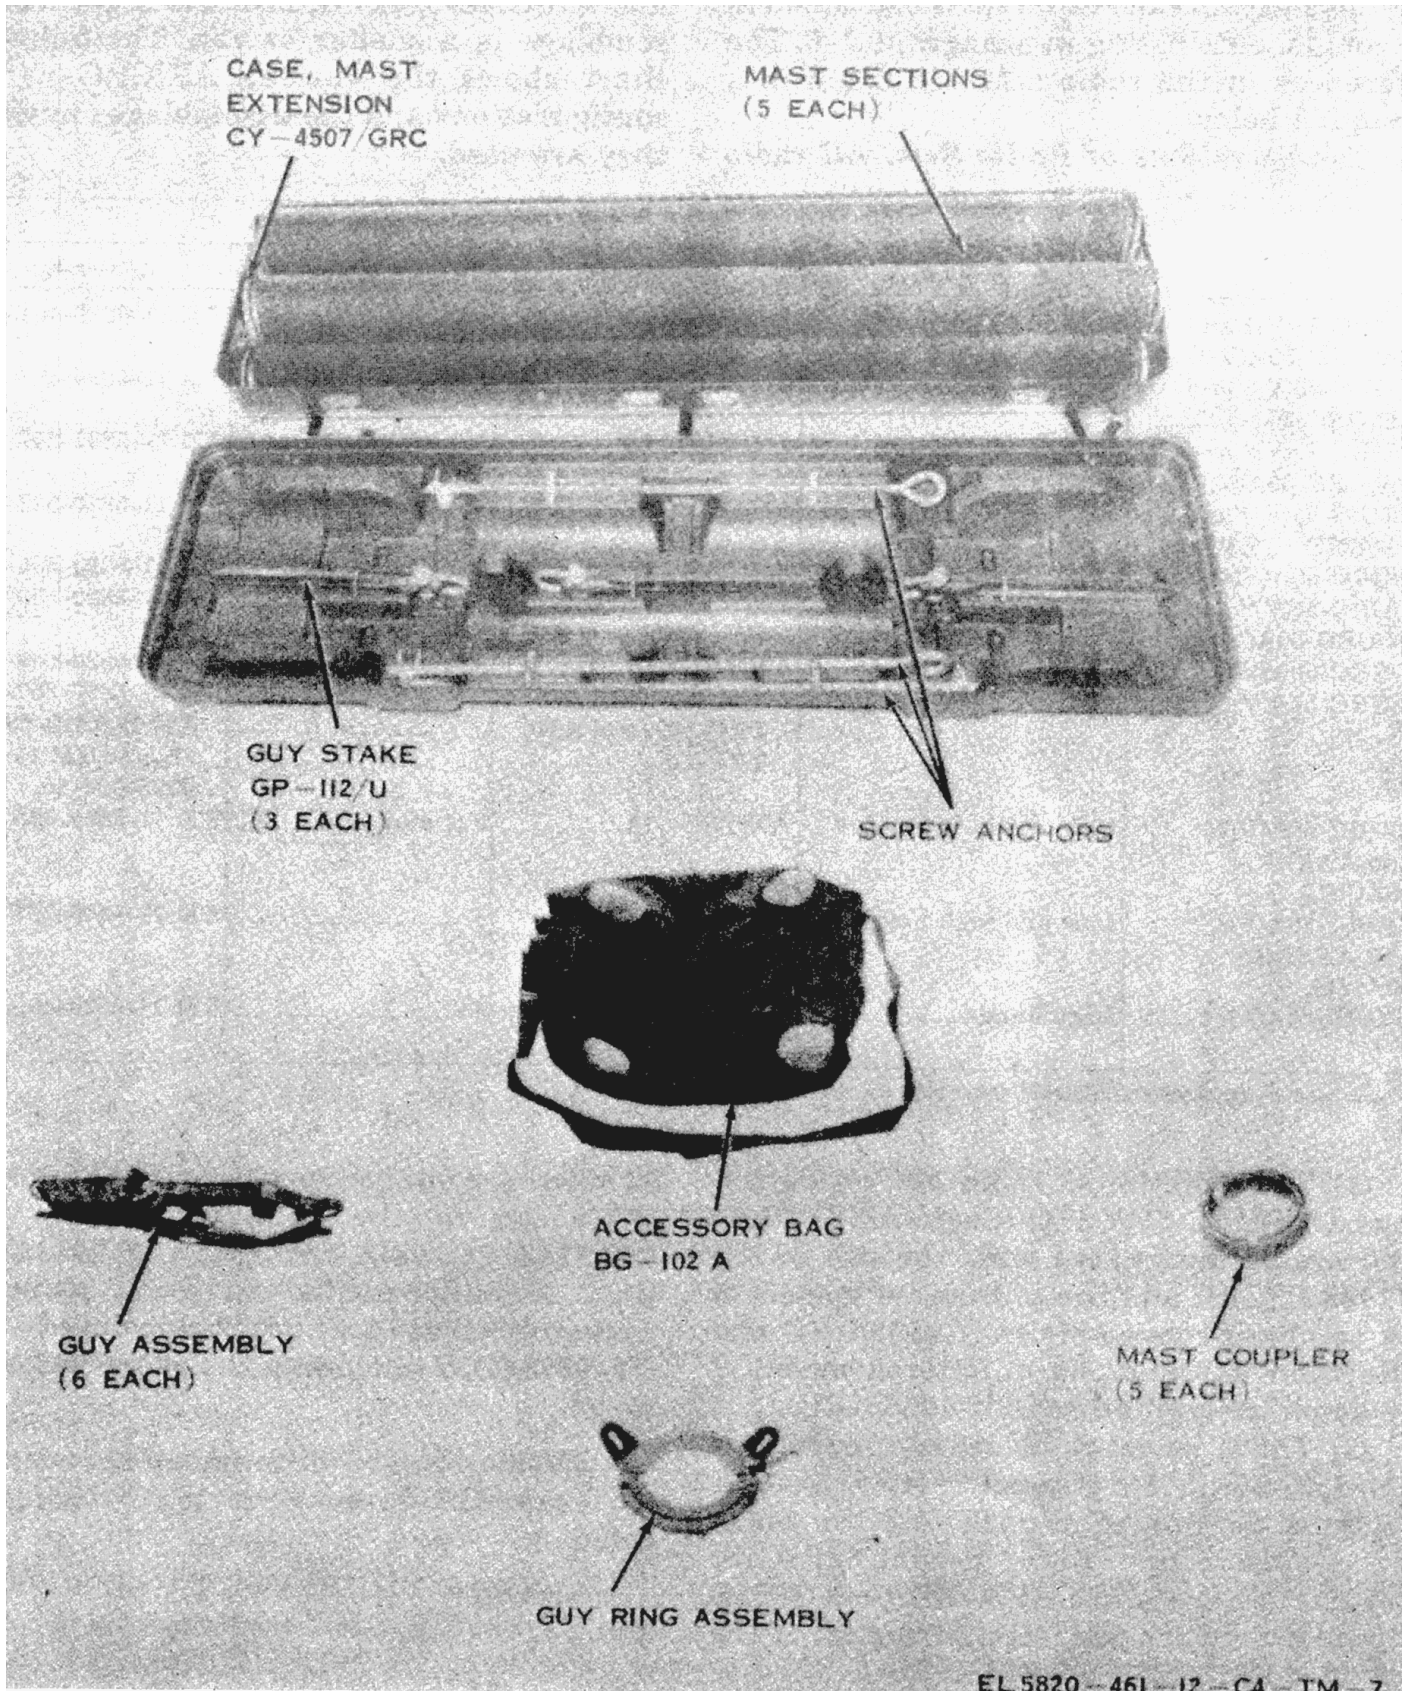

Figure 1-9. Extension Kit, Mast MK-806/GRC, components.
c. Extension Kit, Mast MK-06/GRC (fig. 1-9) (TM 11-5820-538-12) consists of five tubular sections (contained in a mast section carrier case), cable assembly, and accessories (contained in accessory bag). When assembled with the AB-577/GRC, it raises the height of the antenna system to 75 feet. It is used with but is not part of the AN/GRC-50(*) (V).